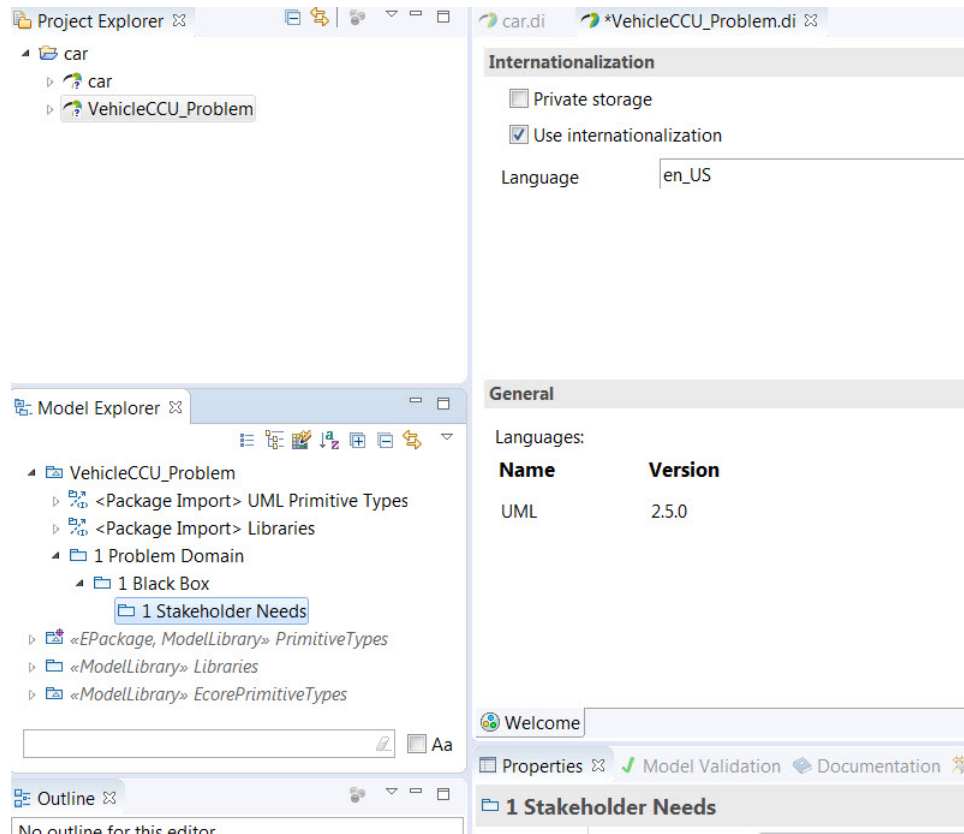

Figure 8: Black Box Packages
1. We are now going to organize our model by creating three new packages in our *VehicleCCU_Problem* model and when we are finished it should look like figure 8.
4. Now right-click on the *1 Black Box* package and follow the same procedure to create a new child package named *1 Stakeholder Needs*. Your result should look like figure 8. If you make a mistake along the way you can simply delete a package and try again. Ensure that the packages are nested as shown in figure 8 before continuing.